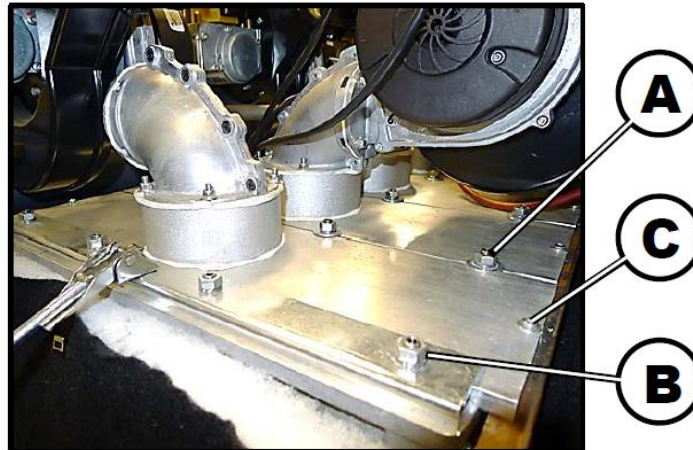

Figure 8-14: Removal of Burner Plate Hardware (Steps 9, 10, 11)
- b) **Separate Modules:** Use a 13mm wrench to remove only the “A” and “C” nuts on either side of the module in question in figure 8-14, then remove the “B” Phillips screw at the end of the burner module. You can then skip the remaining steps in this section and continue with section 8.11 - Cleaning the Burner Module and Combustion Chamber.